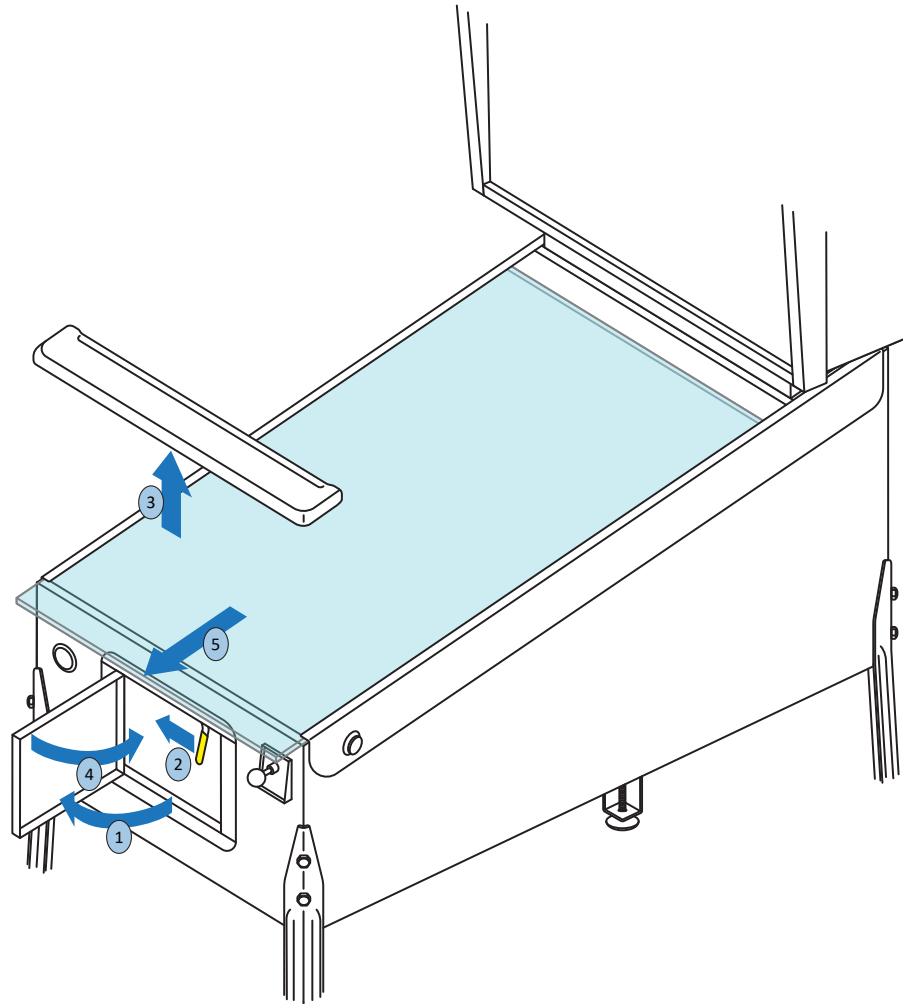

Figure 1-9. Removing the playfield glass.
11) Remove the playfield glass: ① open the coin door, ② slide the yellow lockdown bar lever to the left, ③ lift the lockdown bar straight up and out, ④ CLOSE AND LOCK THE COIN DOOR (to prevent scratching of playfield glass), then ⑤ slide the playfield glass off of the front of the cabinet (see figure 1-9). Carefully set the glass aside.